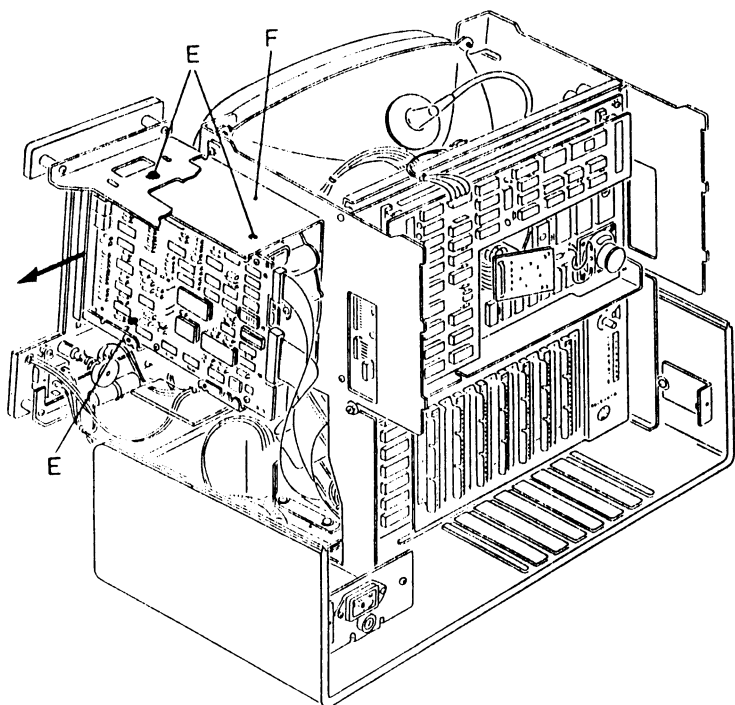

Figure 2.11 Fixed disk removal
3. Remove 3 screws E, see Figure 2.11.